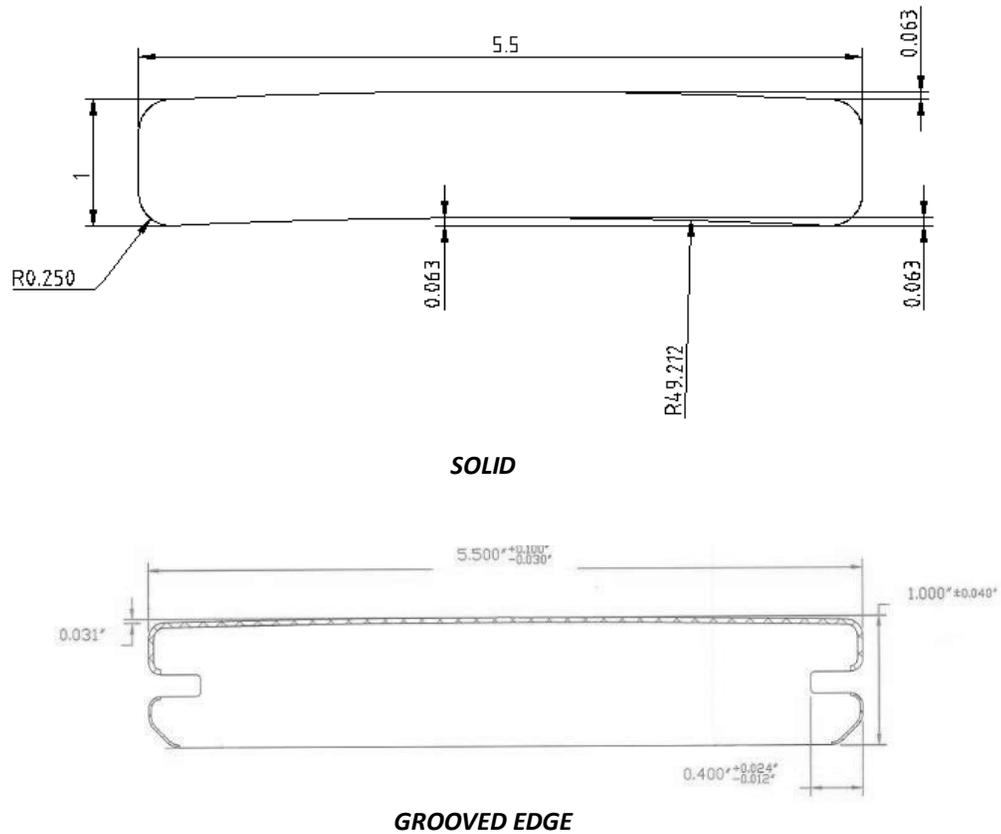

FIGURE 1 – VEKADECK™ DIMENSIONS
3.2 Profiles - VEKAdeck™ Decking Planks have a solid cross-section or grooved edge cross-section with nominal dimensions of 1 inch thick by 5-1/2 inches wide. See Figure 1.